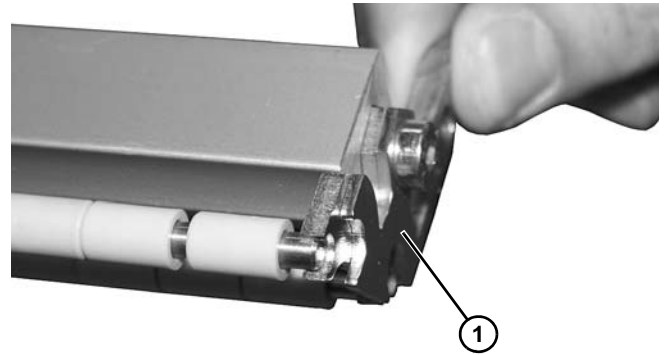

Figure 96
6. Remove outer and inner end plate (**Figure 96, item 1**).